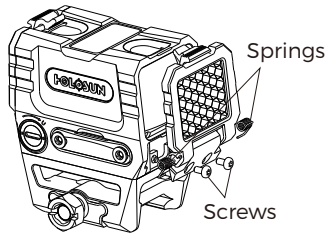

Fig 11
2) Remove the transparent front lens cover, be careful not to lose the springs. Transfer the springs to the designated slots on the anti-reflection-equipped front lens cover(as shown in Fig.11). Align and install the replacement cover, then securely tighten the screws.